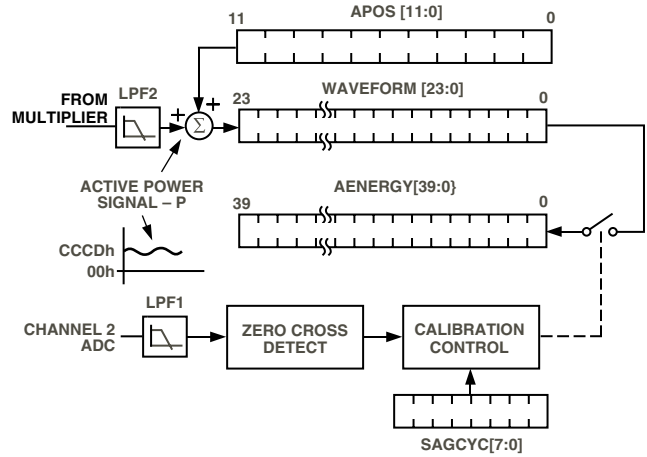

Figure 34. Energy Calculation in Calibration Mode
As mentioned in the last section, the discrete time sample period (T) for the accumulation register is $1.1 \mu s$ ($4/CLKIN$). With full-scale sinusoidal signals on the analog inputs and the Active Power Gain register set to 000h, the average word value from LPF2 is CCCDh—see Figure 34. The maximum word value that can be stored in the Active Energy register before it overflows is 2^{39} or 7F, FFFF, FFFFh. Therefore the integration time under these conditions is calculated as follows:
By using the on-chip zero-crossing detection on Channel 2 the energy calibration can be greatly simplified and the time required to calibrate the meter can be significantly reduced. To use the zero-cross detection the ADE7756 is placed in calibration mode by setting Bit 7 (CMODE) in the Mode register. In Calibration Mode the ADE7756 accumulates the Active Power signal in the Active Energy register for an integral number of half cycles, as shown in Figure 34. The number of half-line cycles is specified in the SAGCYC register. The ADE7756 can accumulate Active Power for up to 255 half-cycles. Because the Active Power is integrated on an integral number of line cycles, the sinusoidal component is reduced to zero. This eliminates any ripple in the energy calculation. Energy is calculated more accurately and in a shorter time because integration period can be shortened. At the end of an energy calibration cycle the SAG flag in the Interrupt Status register is set; this will cause the $\overline{\text{SAG}}$ output to go active low. If the SAG enable bit in the Interrupt Enable register is enabled, the $\overline{\text{IRQ}}$ output will also go active low. Thus the $\overline{\text{IRQ}}$ line can be used to signal the end of a calibration also. Another calibration cycle will start as long as the CMODE bit in the Mode register is set. Note that the result of the first calibration is invalid and must be ignored. The result of all subsequent calibration cycles is correct.